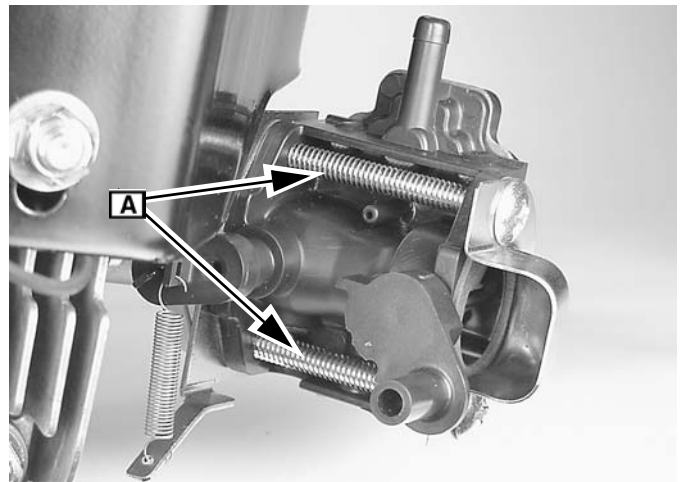

Fig. 19
4. Remove the two screws **A** that secure the carburetor to the intake pipe and discard the gasket (Figure 19).